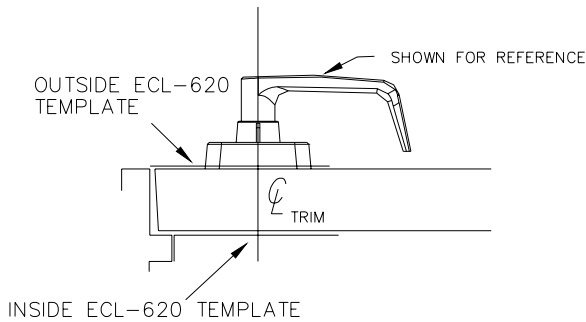

Fig. 4
3. Orient the **INSIDE** template TPL-620 for proper door handing and tape to door per **Fig. 4**.